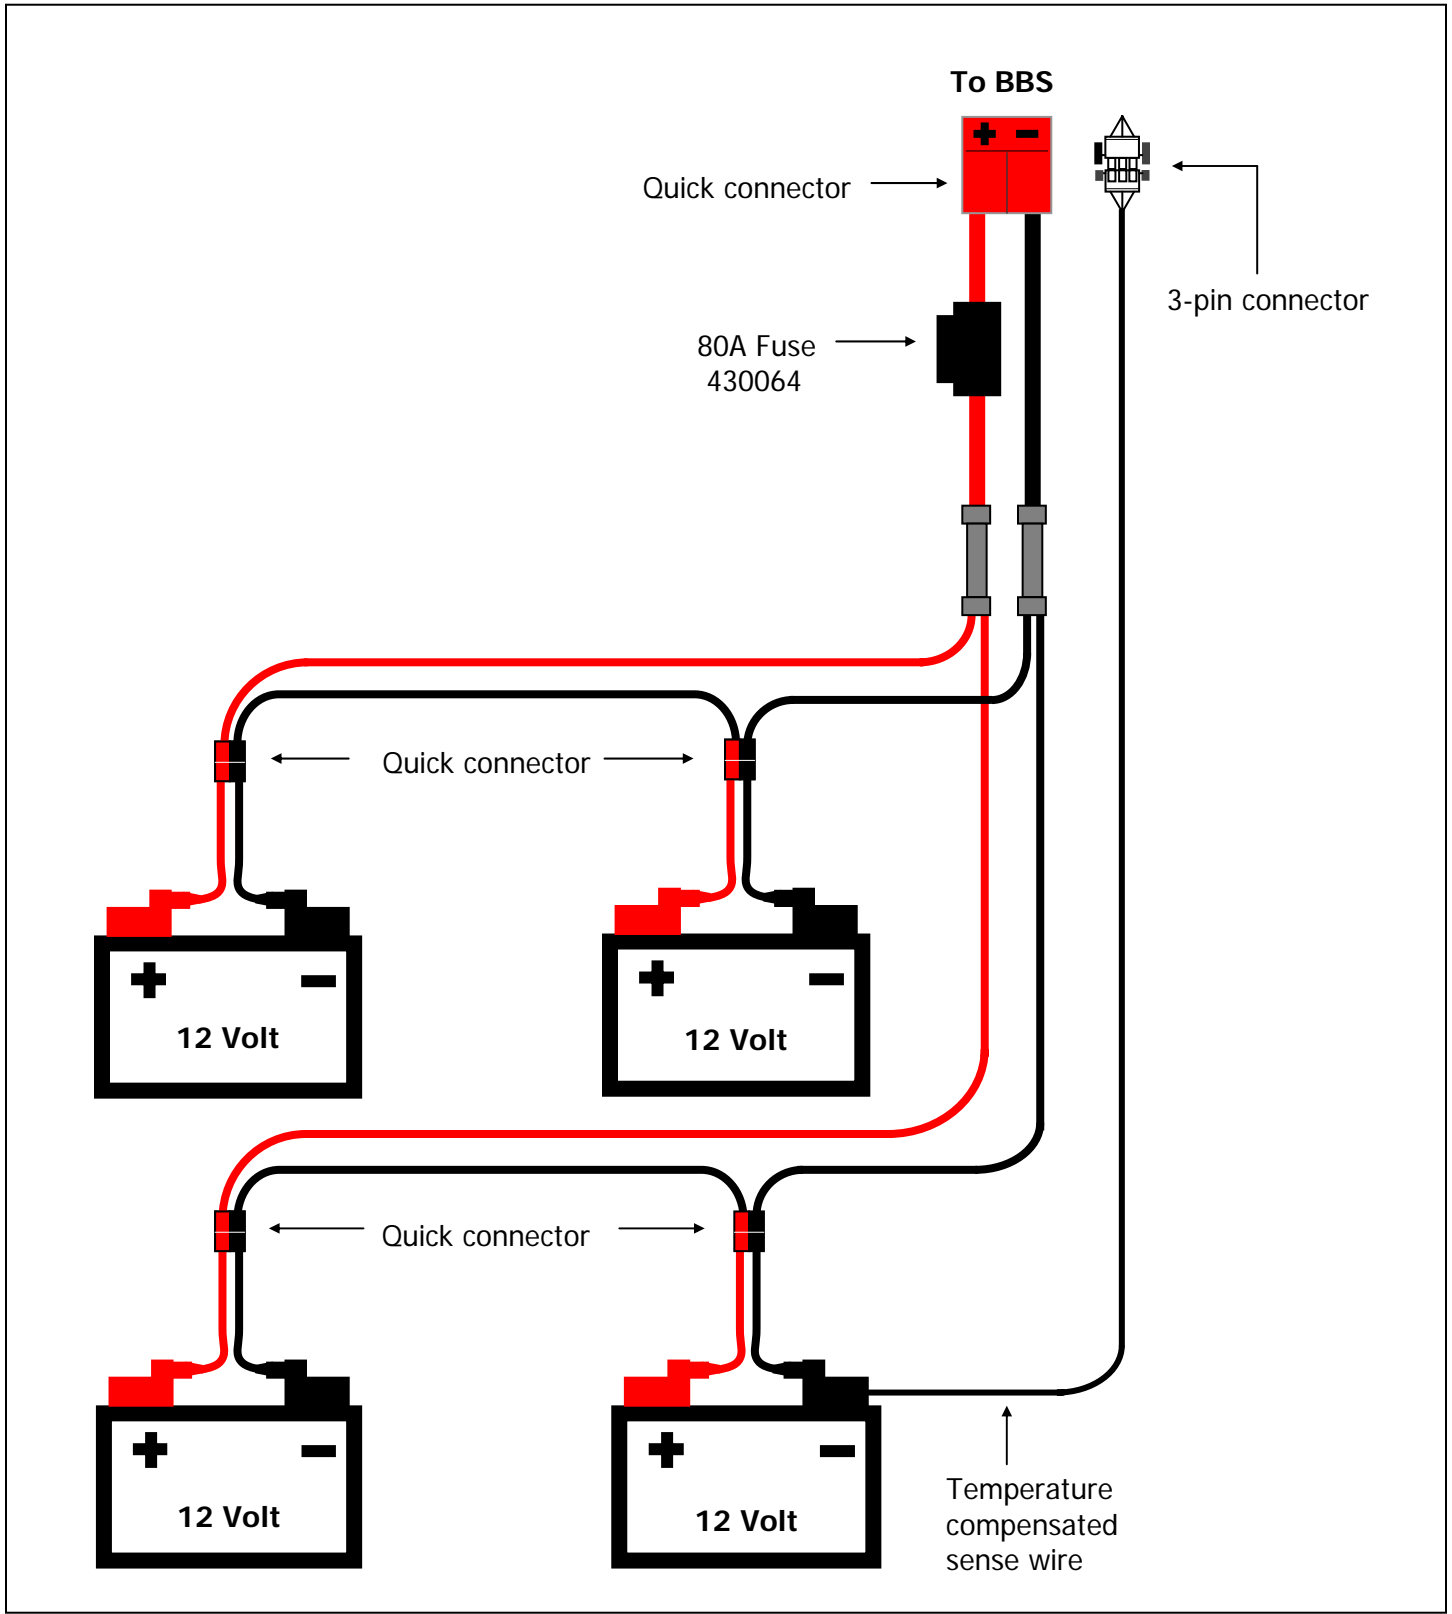

FIGURE 9: Battery wiring configuration
- Connect the four quick connectors as shown on Figure 9.
- b) Connect the temperature compensation sense cable probe ring lug to a negative battery post. Refer to Figure 9 Page 13, Figure 27 Page 37 or Figure 28 Page 38.